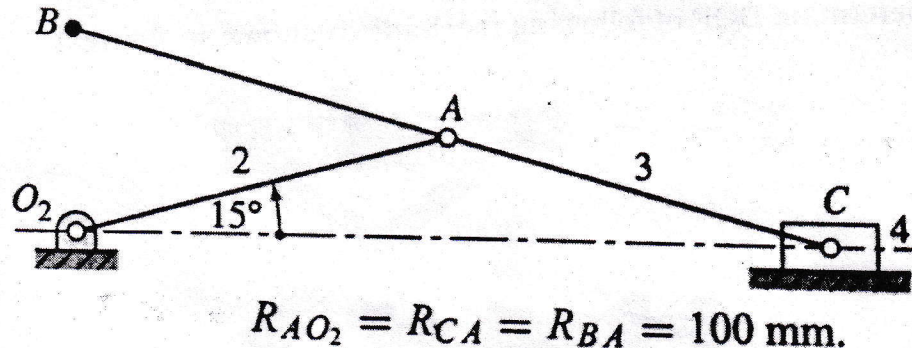

Figure 3
- b) For the straight line mechanism illustrated in figure 3, $\omega_2 = [6]$ 20 rad/sec CW and $\alpha_2 = 140 \text{ rad/sec}^2$ CW. Determine velocity of B using ICR method.